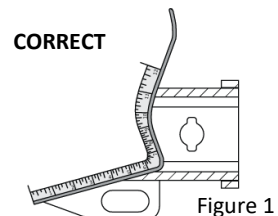

Figure 1
- Measure from bottom edge along bumper and around corner to the 70 mm point (Figure 1).
- Refer to figure 1.
1. People mover only (fig1)